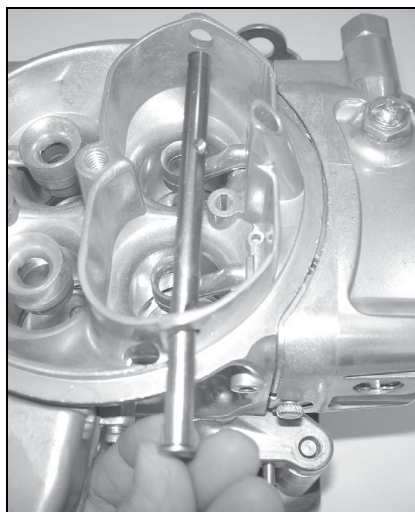

Figure 6
6. Insert the choke butterfly shaft through the choke tower (Fig. 6). Make sure the choke butterfly shaft moves freely before proceeding. If it does not you may need to deburr the hole(s) going through the choke tower or use a 0.316" drill bit to make sure the hole is the proper size.